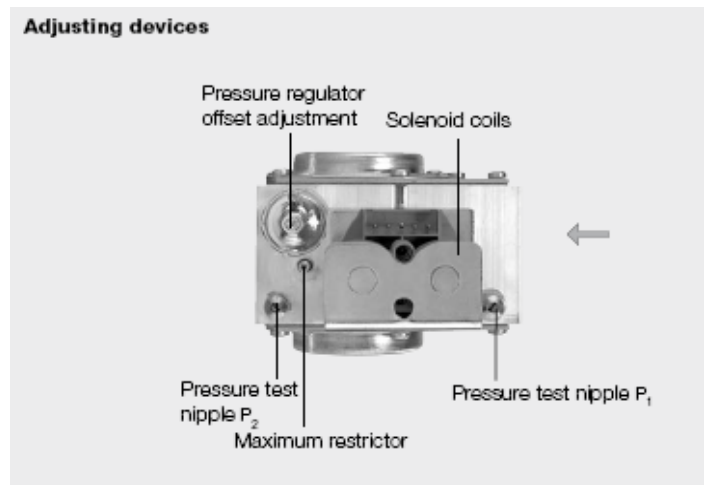

Fig. 2 DUNGS GAS VALVE
10. After firing burner, adjust the Maximum restrictor to obtain O₂ of about 5-6%. (Fig. 2)